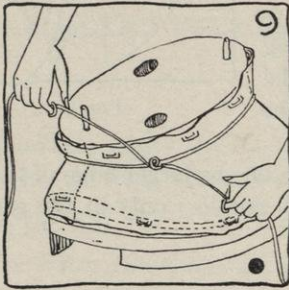

FIG. 9.
- f. Tie a cord around the headsize to give a decided headsize line (see Figure 9) and then, if necessary, tack above the cord. Leave cord tied until brim is pressed.